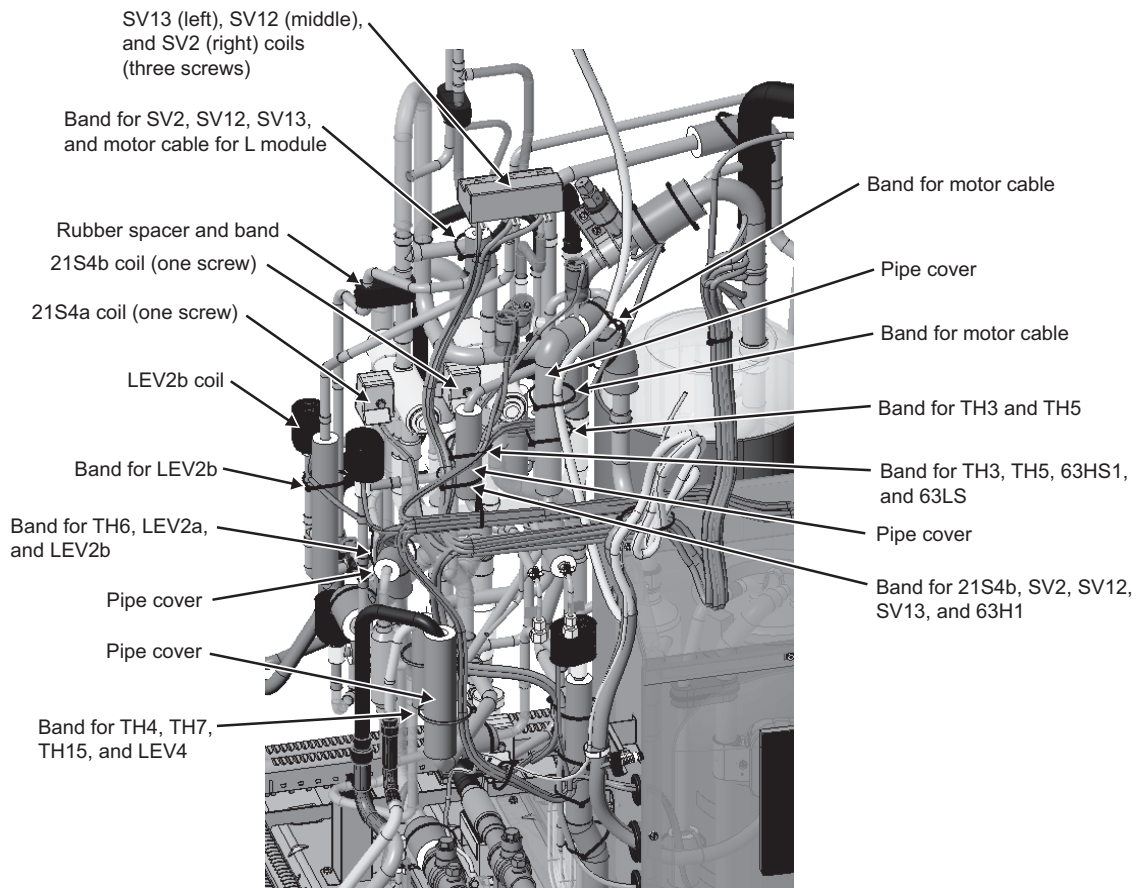

Fig. 1
- (1) Remove the four-way valve coils, LEV coils, coil covers, coil caps, pipe covers, rubber spacers, and bands. (Fig. 1)